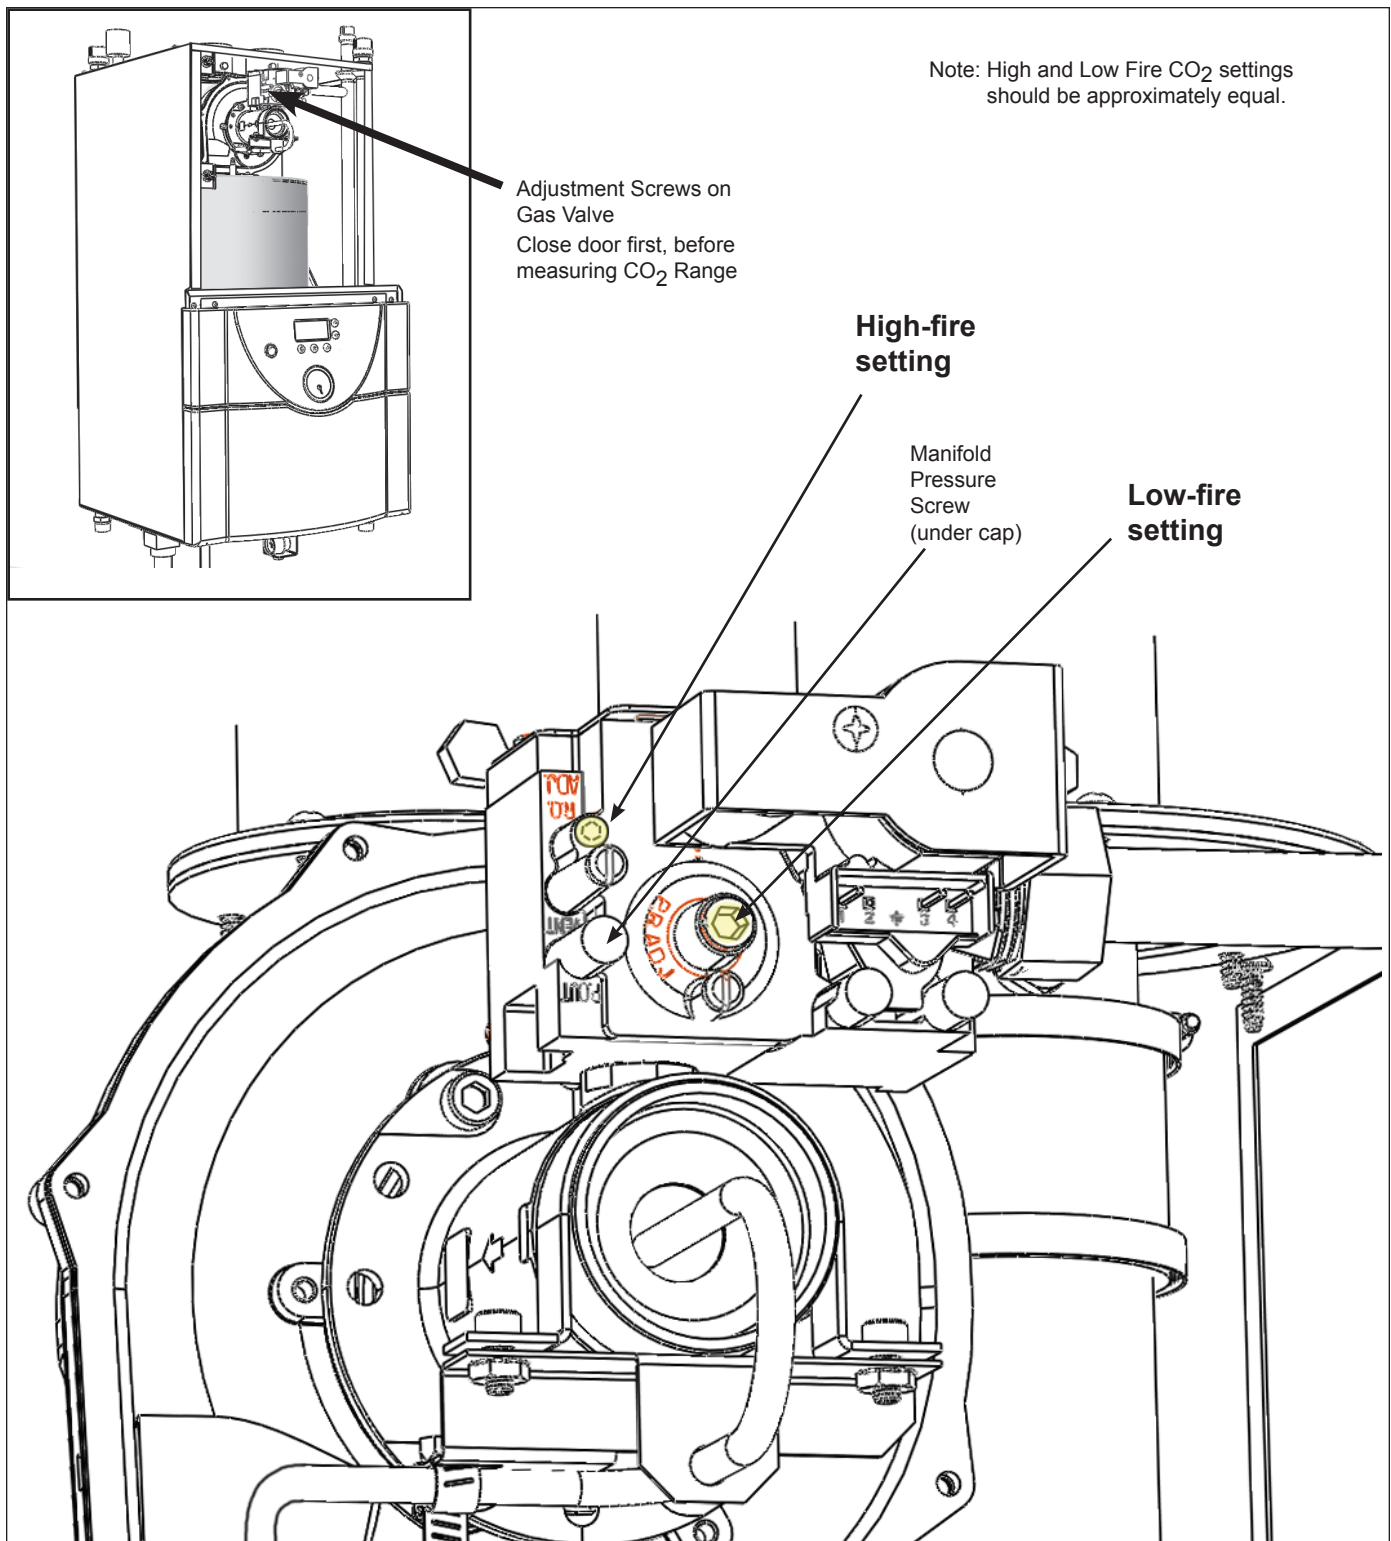

Figure 26. Adjustment Screws and Settings for CO2
1. Measure the CO2 in the flue products at high fire. The Brute LX can be forced to high fire to allow for easier setup. Refer to **Section 8** for instructions on how to access the forced rate menu. The CO2 readings should be between the range shown in **Table 17**. If the CO2 is not within the range shown, adjustments may be made. To adjust the high fire CO2, locate the high fire adjuster screw (see **Figure 26**). **Using a 2.5 mm Hex wrench, slowly make adjustments in 1/16 of a revolution increments until the CO2 is within the range identified.** (see **Figure 26**)
2. Measure the CO2 in the flue products at low fire. Brute LX can be forced to low fire to allow for easier setup. Refer to **Section 8** for instructions on how to access the forced rate menu. CO2 readings should be between the range shown in **Table 17**. If the CO2 is not within the range shown, adjustments may be made. To adjust the low fire CO2, locate the low fire adjuster screw. **Using a 4 mm Hex wrench, slowly make adjustments in 1/16 of a revolution increments until the CO2 is within the range identified.** (see **Figure 26**)
6. With a combustion analyzer, check CO2 levels at both maximum and minimum input. Refer to sections **Figure 26** and **Table 17** of this manual for the proper adjusting procedures.